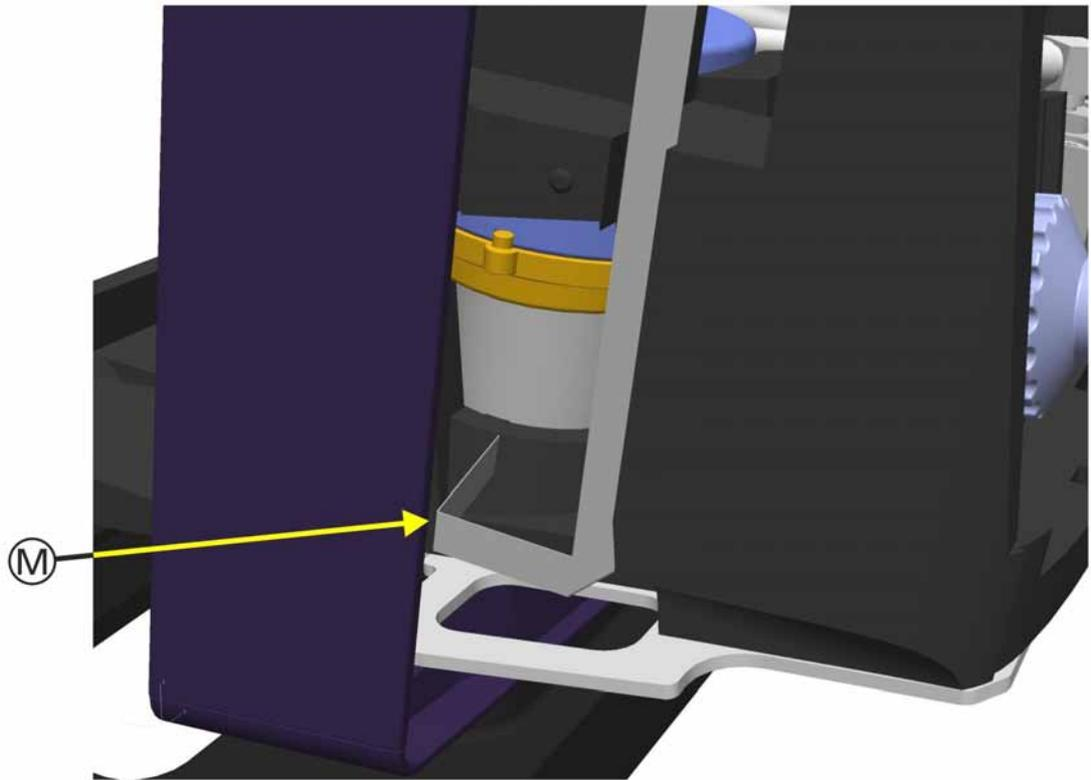

Figure 11-62. Inspiratory Valve, Qvent Flow Sensor and Ambient Valve Assembly, Step 3
- Figure 11-62, *Inspiratory Valve, Qvent Flow Sensor and Ambient Valve Assembly, Step 3*, on page 11-69